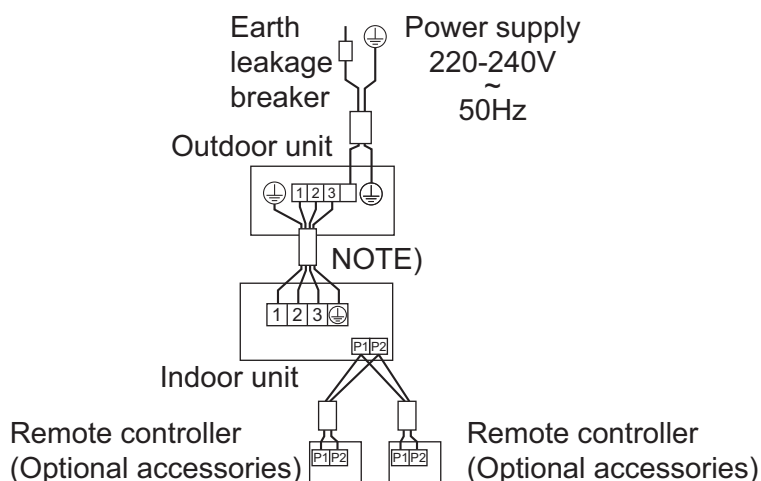

Fig. 45
- **Control with 2 remote controllers:** To control 1 indoor unit with 2 remote controllers. (Refer to Fig. 45)